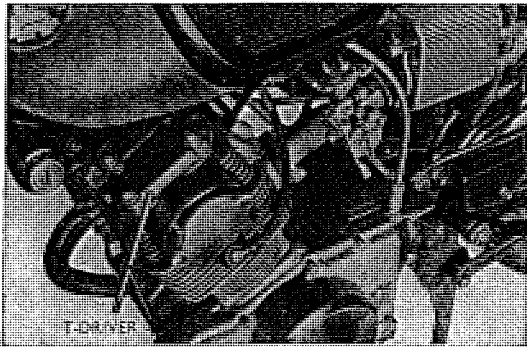

Fig. 3.10 Installation of engine
2. When installing the engine mounting bolts operation is easily performed if a T-driver is employed. (Refer to Fig. 3.10)